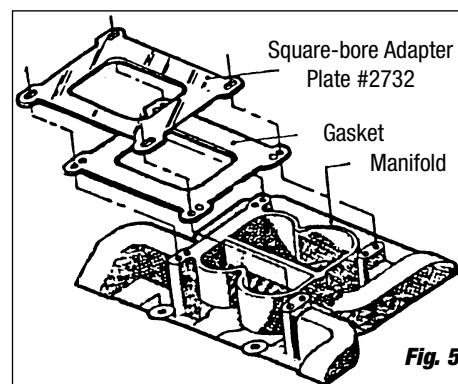

Fig. 5
5. You must use an Edelbrock Adapter #2732 when installing a Performer Series Carb on certain Edelbrock intake manifolds. In those applications, install the adapter as shown (**See Fig. 5**).